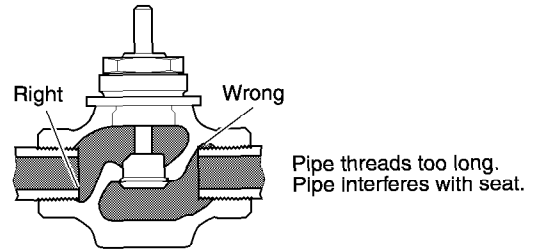
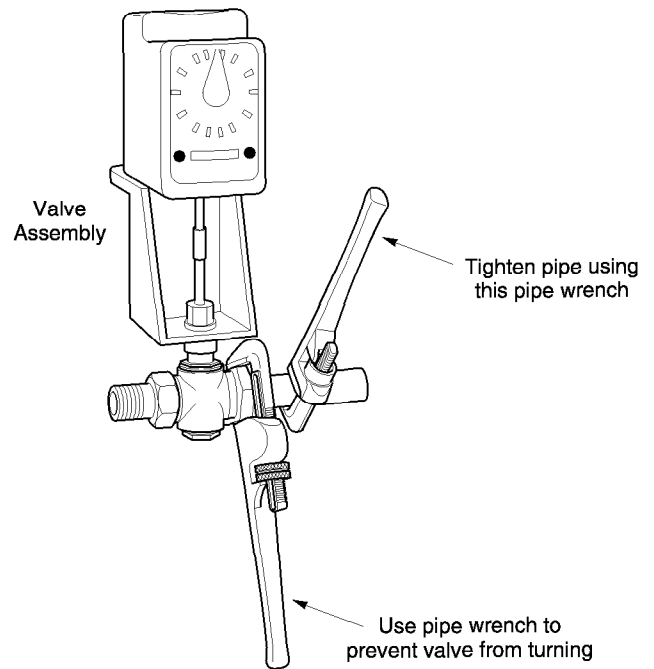

Figure-3 Normal Thread Engagement.
Figure-4 Installation of Union End Valves.
3. Use a pipe wrench to fully tighten the valve to the pipe. Do not over tighten or strip threads. See Table-8 and Figure-3 for the normal engagement length of the threads. Figure-4 shows means of tightening the pipe so that valve is not twisted or crushed.